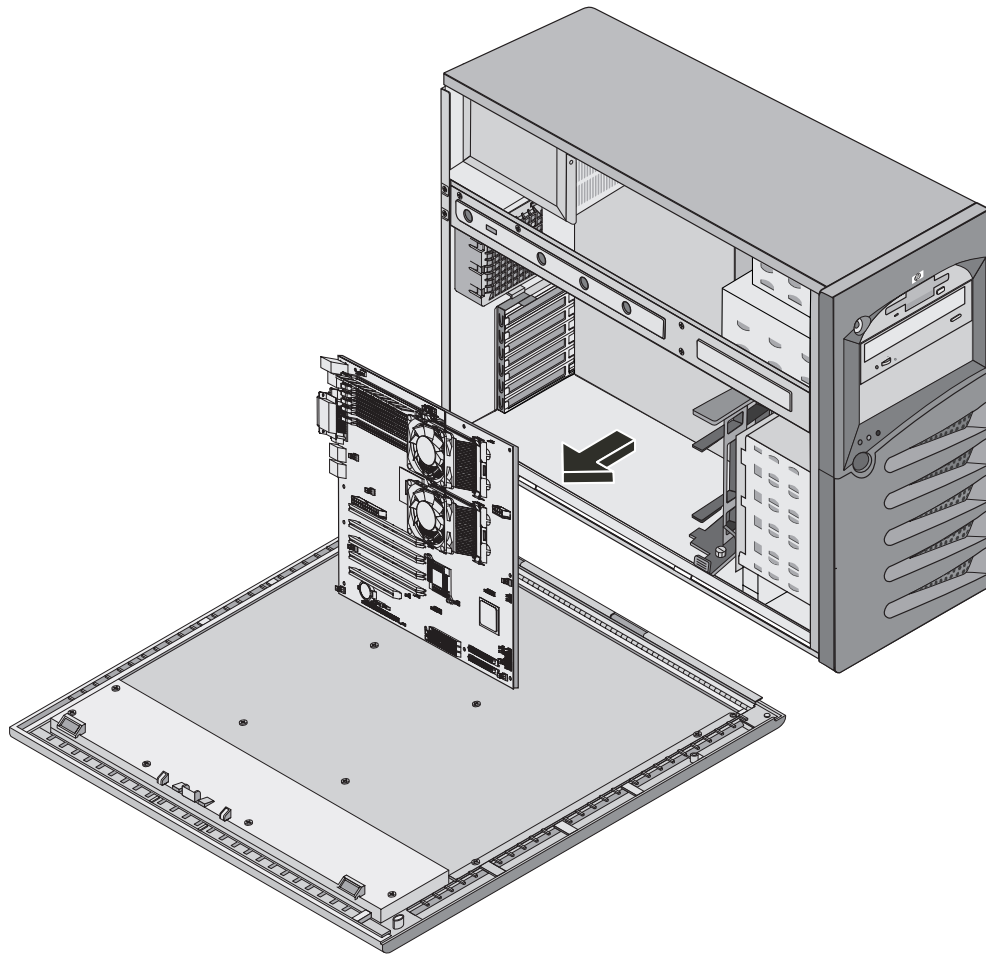

Figure 5-4: Removing system board
12. Slide the system board forward and then lift the board up and away from the chassis. Refer to Figure 5-4.